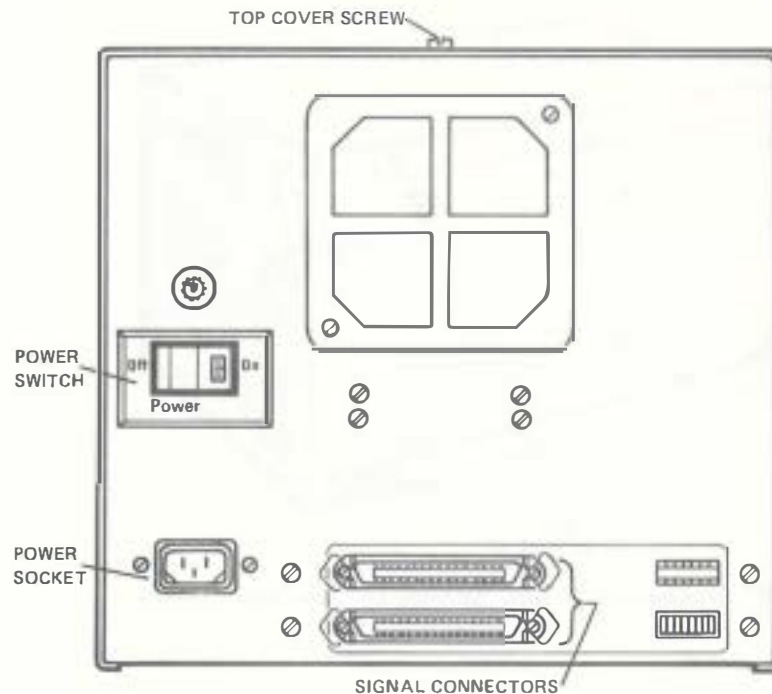

Figure 5-25. 8" Diskette Drive Assembly Connections
3. Disconnect the power cord and all other connectors on the rear of the diskette drive assembly. See Figure 5-25.
4. Carefully lay the diskette drive assembly on its side and remove the five screws holding its cover in place. See Figures 5-25 and 5-26.
6. Replace the screw that secures the top of the cover to the housing. See Figure 5-25.
8. Return the diskette drive assembly to its upright position. Reconnect the power cord and all other connectors that were removed. See Figure 5-25.